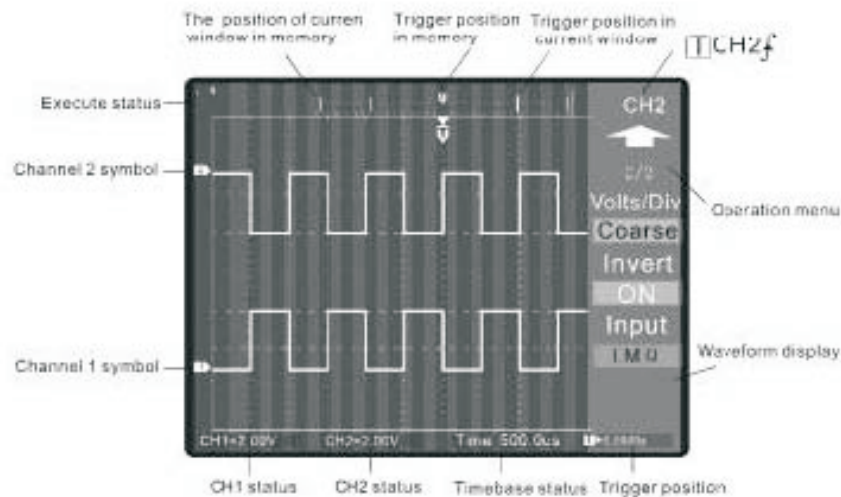

Figure 1-4. User Interface
1. Turn on the instruments, a moment later the display shows that all self-tests passed, as show in Figure 1-4.